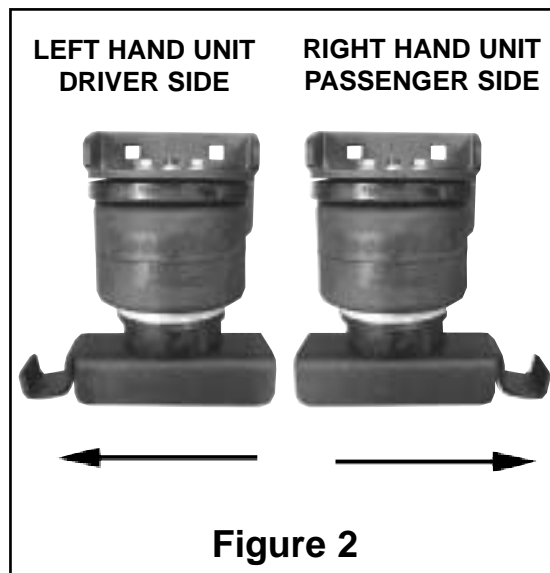

Figure 2
4. The lower brackets are marked left and right, left for the driver side and right for passenger side. The slots in the lower bracket must be offset outboard towards the tire. Position the hook of the lower bracket in relationship to the upper bracket as shown in Figure 2.